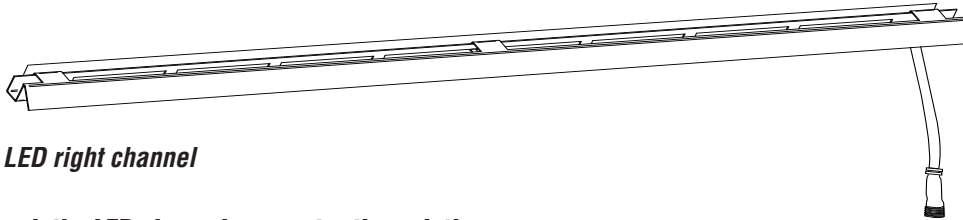
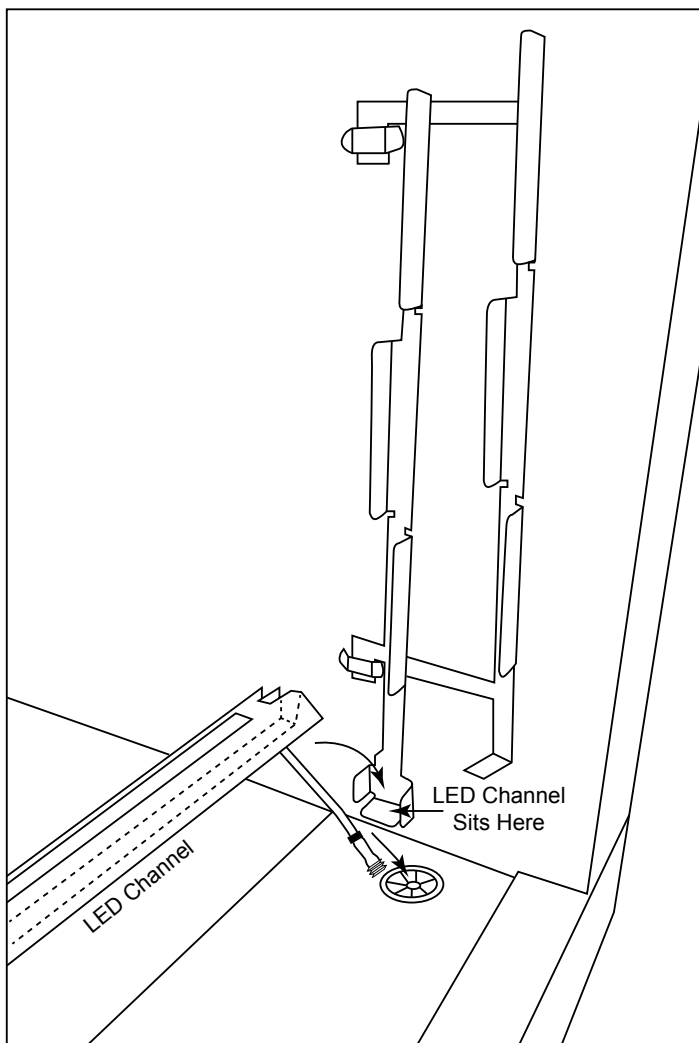

Figure 20 - Shows LED right channel
Figure 21 - Installing LED lights and channel
Step 5: Remove the LED right channel assembly from the carton (The front of the channel has a shield facing the front with the LED wire hanging on the right side). *See Figure 20 and Figure 21 for details. NOTE: If you are installing into a see-through fireplace you will install both right and left channels assemblies.*
Step 6: Carefully push the LED channel connector through the wire grommet. As you push it through the grommet sit the LED channel into the bottom of the glass clip. Ensure the other end of the channel is also sitting inside the other retainer clip. *See Figures 21 & 22 as a reference. Note: If you are installing into an optional see-through fireplace, install the other LED light strip and channel the same direction to ensure wires will connect.*